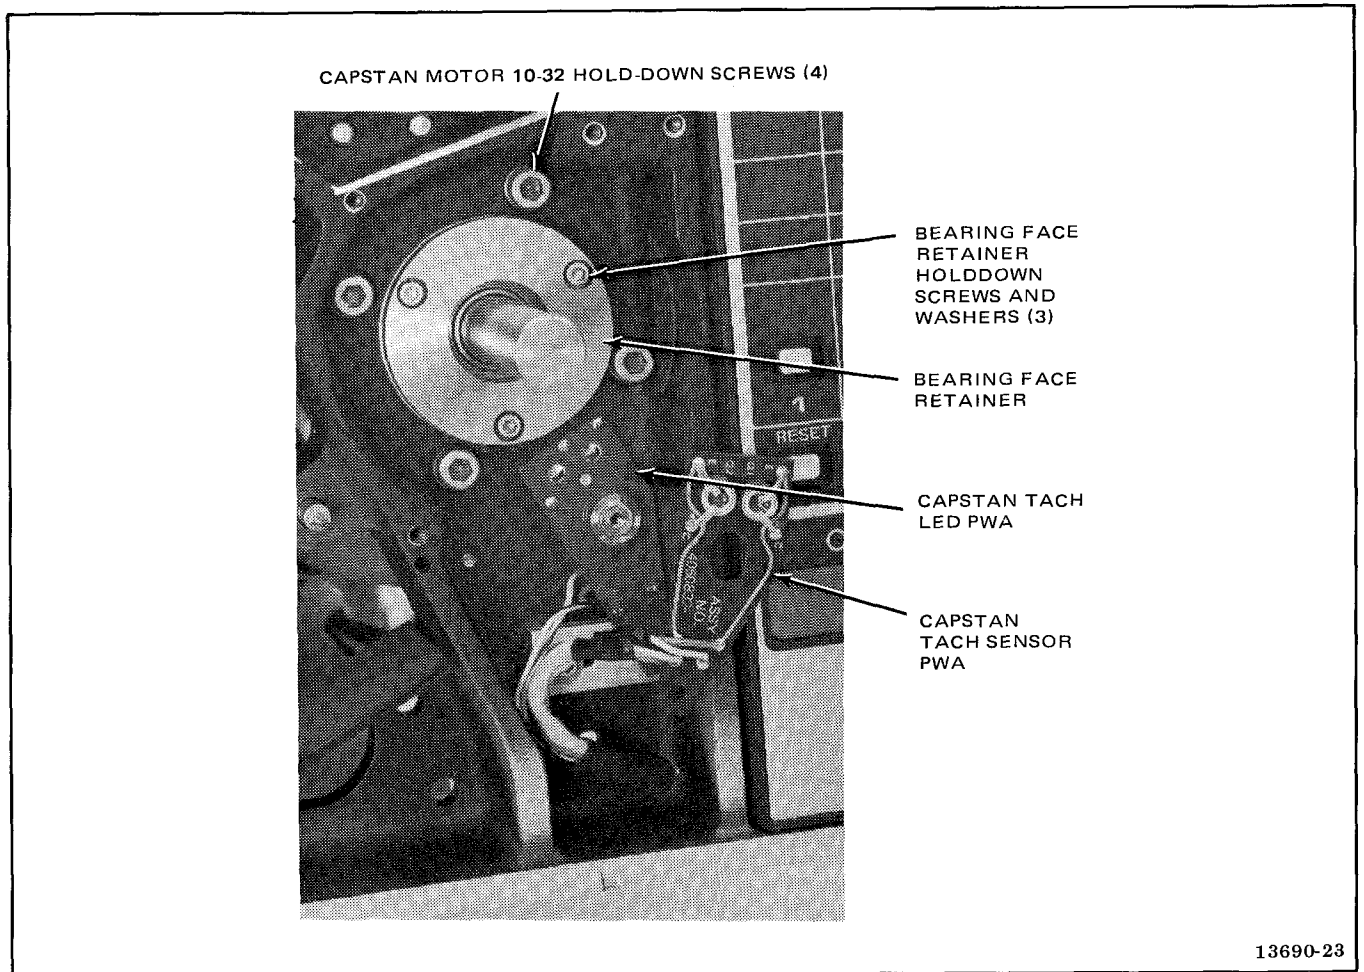

Figure 5-47. Capstan Motor Removal
4. Remove four capstan motor 10-32 holddown screws (Figure 5-47).
4. Remove bearing face retainer (three screws and washers shown in Figure 5-47).